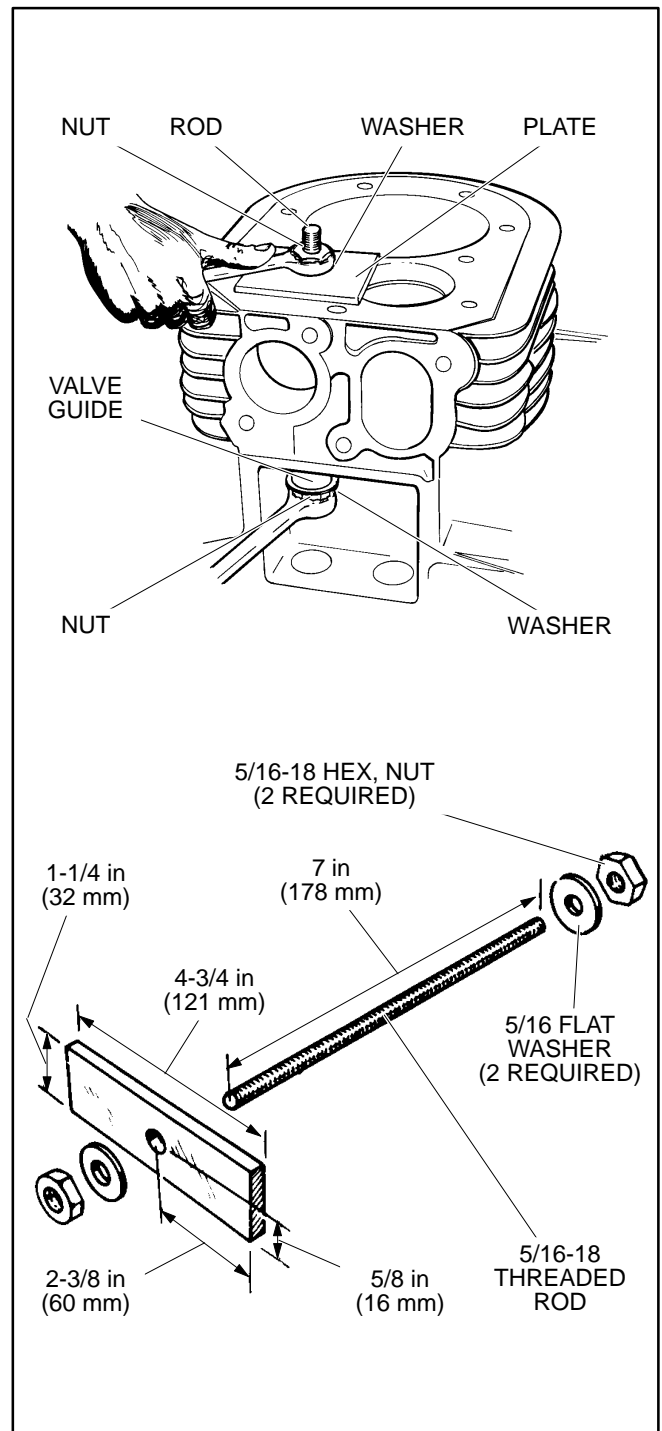

FIGURE 40. SUGGESTED TOOL FOR INSTALLING THE VALVE GUIDES
3. Place the guide, notch up, in the cylinder block and press it in until the shoulder of the guide rests against the cylinder block (Figure 40).